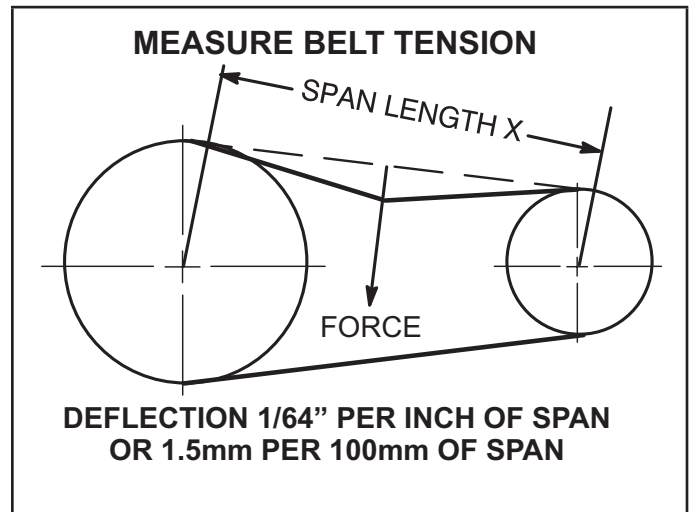

FIGURE 12
- 1 - Measure span length X. See figure 12.
- 2 - Apply perpendicular force to center of span (X) with enough pressure to deflect belt 1/64" for every inch of span length or 1.5mm per 100mm of span length.